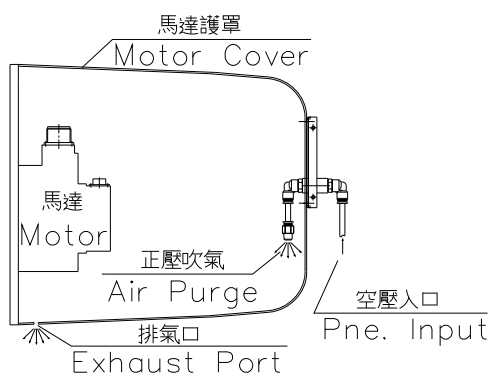

Fig 6-1
- (8).Supply compressed air to bring up barotropic fluid inside of motor cover. Release stable air pressure through throttle connector. The positive air pressure stays to avoid any humidity accumulated in the cover and prevent damage and corrosion of internal electrical components. (see Fig 6-1)